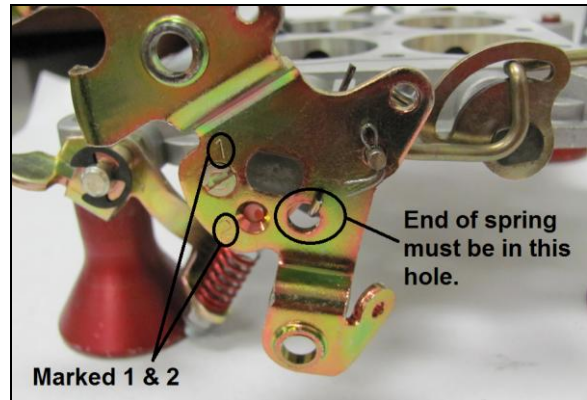

Figure 7
9. Figure 7 shows the new throttle shaft. Make sure that the throttle return spring is positioned in the correct hole on the throttle lever (Figure 7). The holes marked 1 and 2 are used for accelerator pump cam screw. Check the new shaft for any burrs left from the machining process. Clean off and spray a light coat of WD-40 on the shaft and into the throttle shaft hole.